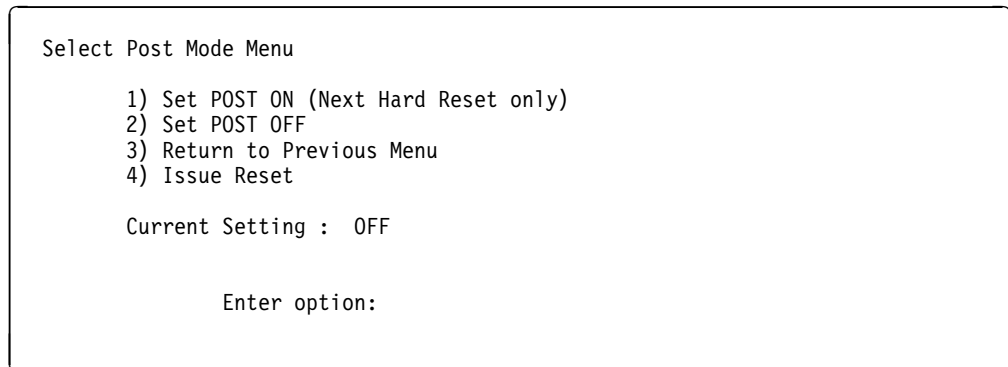

Figure 4-11. Post Mode Selection Panel
2. A menu listing the following options is displayed (see Figure 4-11).